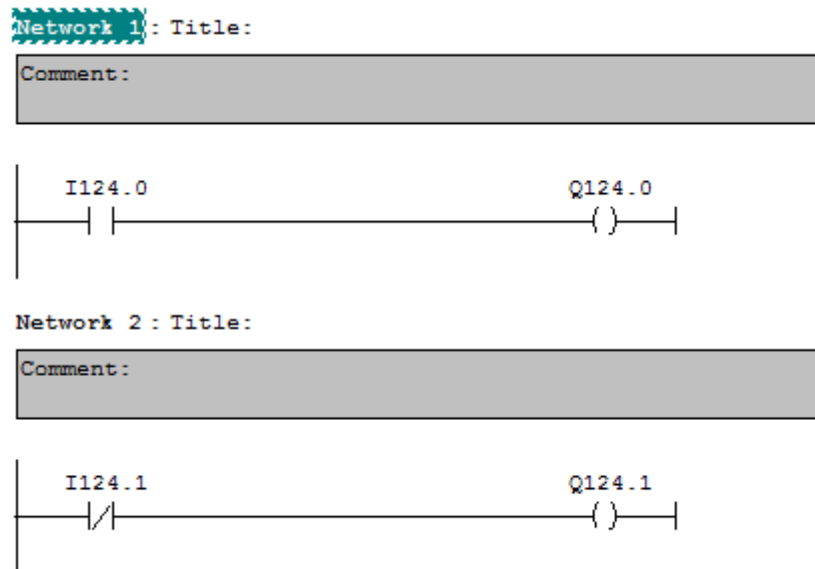

Figure 12. Ladder diagram of contacts and coil circuit experiment
1. Configure Ladder Diagram for contacts and coils as shown in Figure 12.